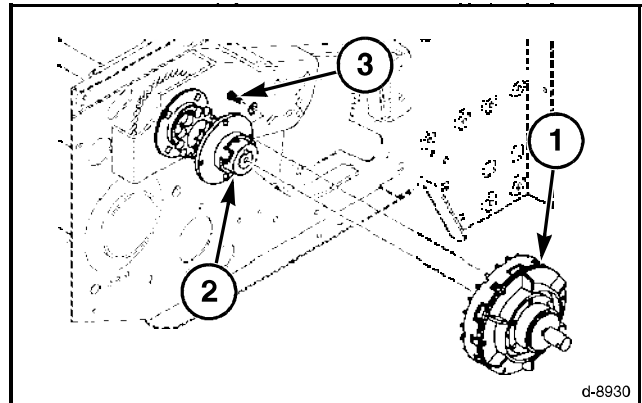

FIG. 18
FIG. 18: Put the clutch (1) into position. Make sure the tabs in the friction plate line up with the notches in the clutch hub (2). Install the four cap screws (3) and washers.